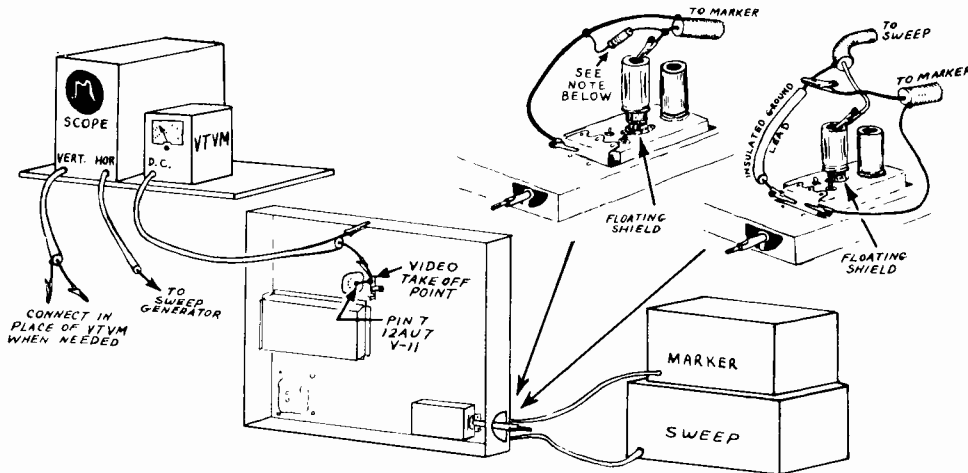

Figure 7. CONNECTIONS FOR I.F. ALIGNMENT.
- 3) Connect D.C. V.T.V.M. to Pin 7 V-11A sync. separator (video take off point) see Fig. 7.
- 4) Connect terminated marker generator to floating shield of converter tube V-22 6J6. (Shield raised slightly so that it does not make contact with chassis). Use unmodulated marker. See Fig. 7.